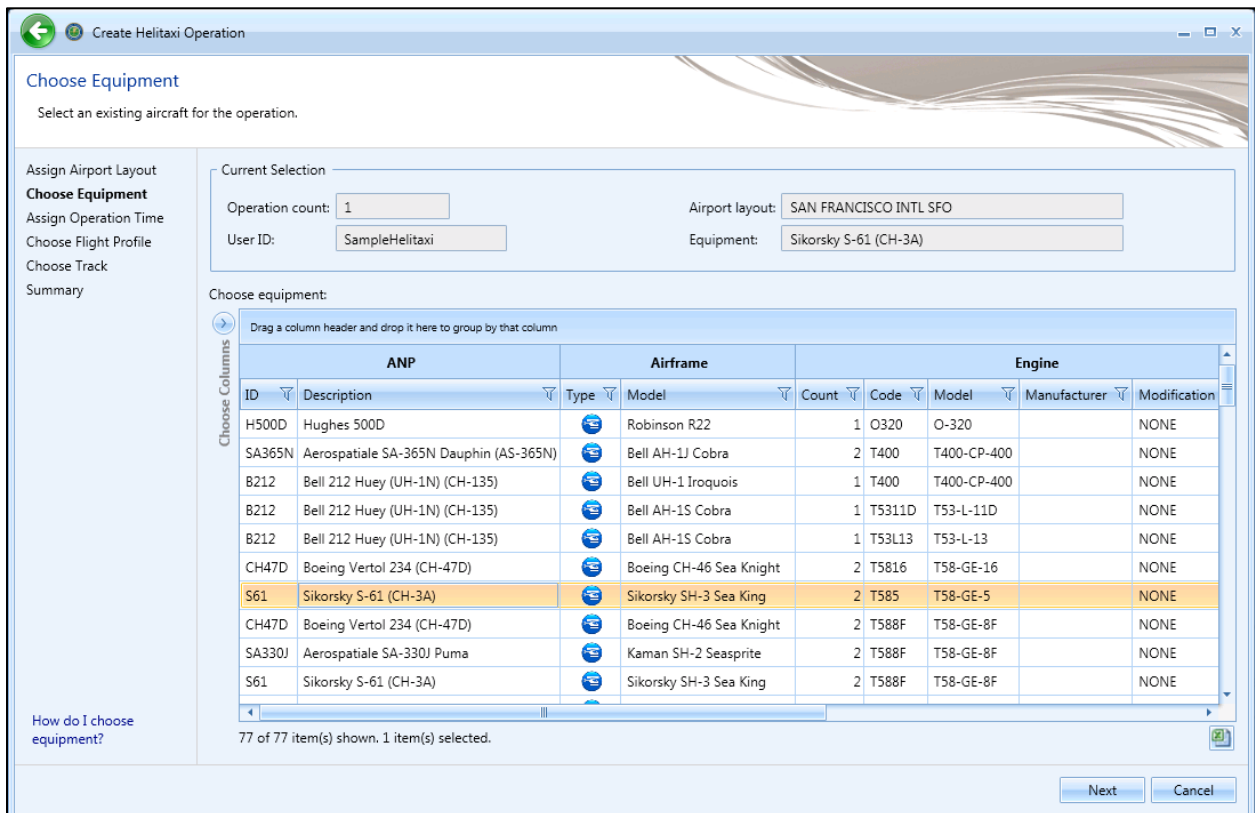
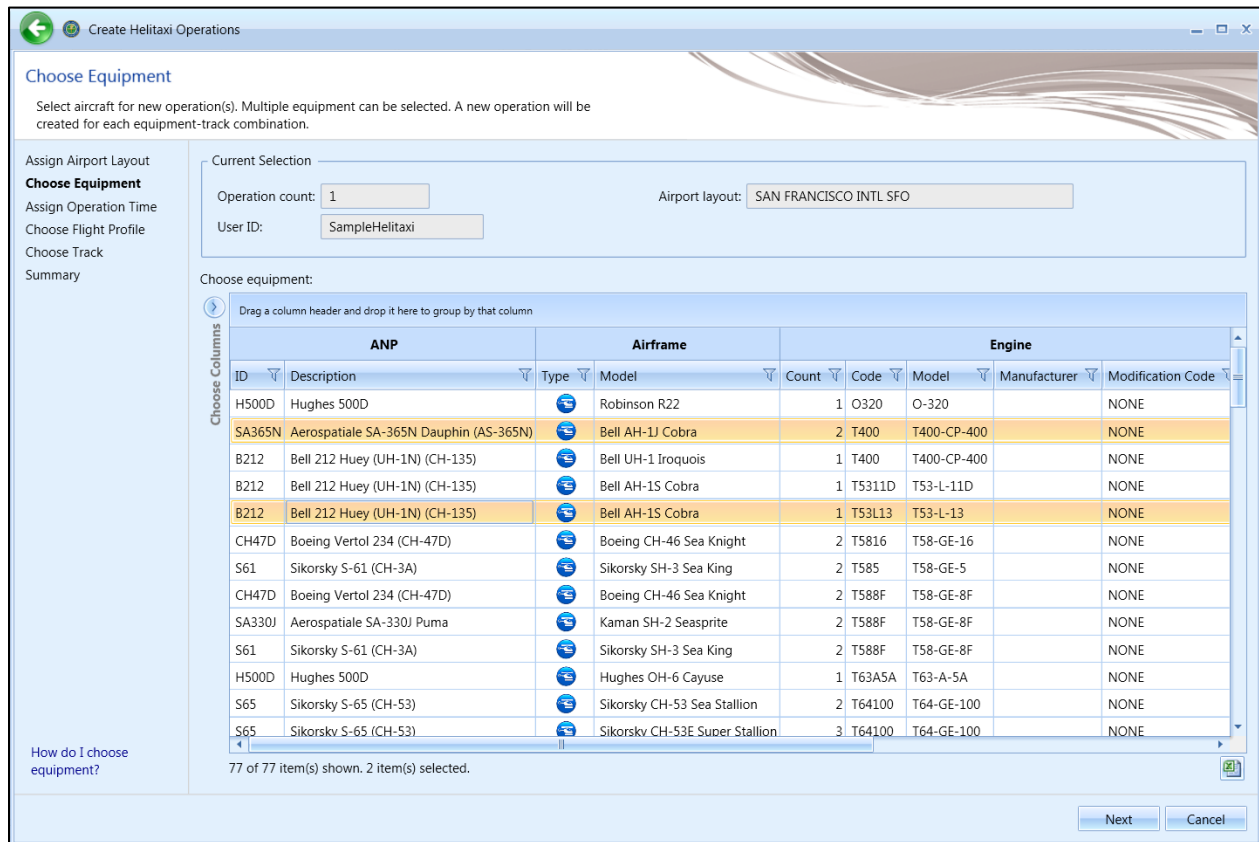

Figure 6-48 Create Helitaxi Operation – Choose Equipment (Single)
Figure 6-49 Create Helitaxi Operation – Choose Equipment (Bulk)
1. Select the desired helicopter from the *Choose equipment* list (Figure 6-48). Multiple helicopters can be selected in this step for bulk operation creation (Figure 6-49). To deselect equipment, click on the highlighted entry again.